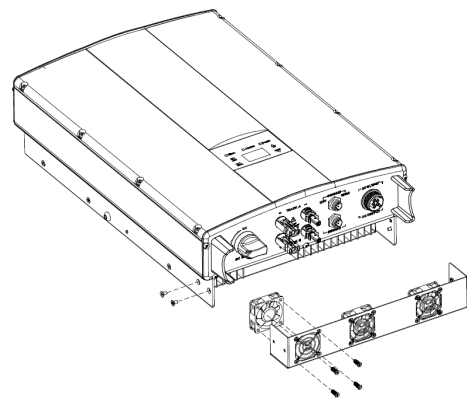

Figure 15B: Disassembling the fan box
7. Disassemble the fan box as shown in Figure 15B above;